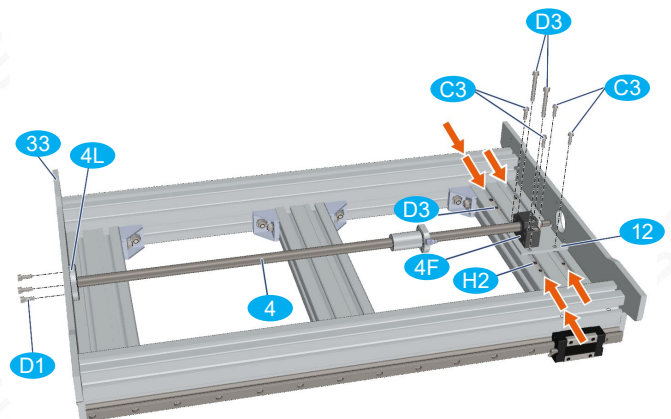

Fig. 14: Assembly of the X drive
- Place the pre-assembled X drive **4** in the base frame as shown in Figure 14.